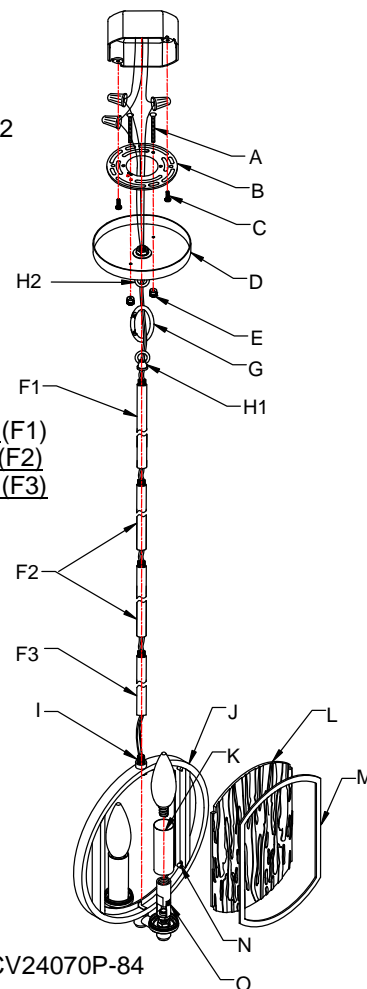

Fig. 3
CONNECTING THE WIRES (Fig. 3)
7. At this point, connect the electrical wires as shown in figure 3, making sure that all wire connectors are secured. If your outlet has a ground wire (green or bare copper), connect the fixture's ground wire to it. Otherwise, connect the fixture's ground wire directly to the circular strap using the green screw provided.